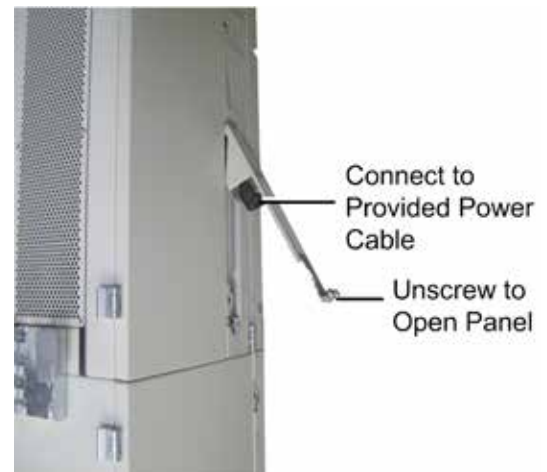

Figure 15. GX AC Model Power Connector
**Step 1:** Unscrew the two screws of the side panel and open to access the power connector. See Figure 15.